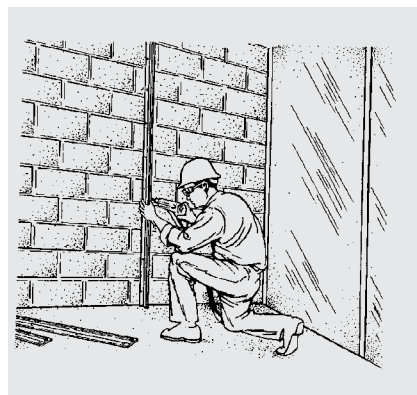

Figure 5
1. Measure and mark vertical lines for the placement of the PVC base strips. Space the PVC base strips for the correct width of the insulation board (Figure 5). Allow 1/8" between the insulation boards to accommodate the width of the PVC base strip.